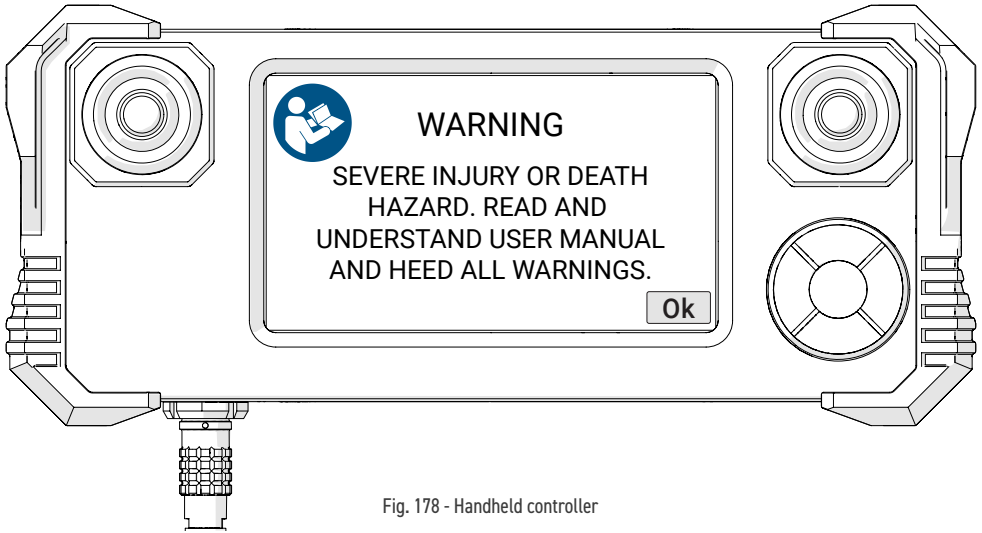

Fig. 178 - Handheld controller
5. A warning message will display on the handheld controller when power has been activated (Fig. 178). Once the dangers of using the SKOOT HT are recognized and understood by reading this user manual, touch **Ok** to acknowledge the warning.